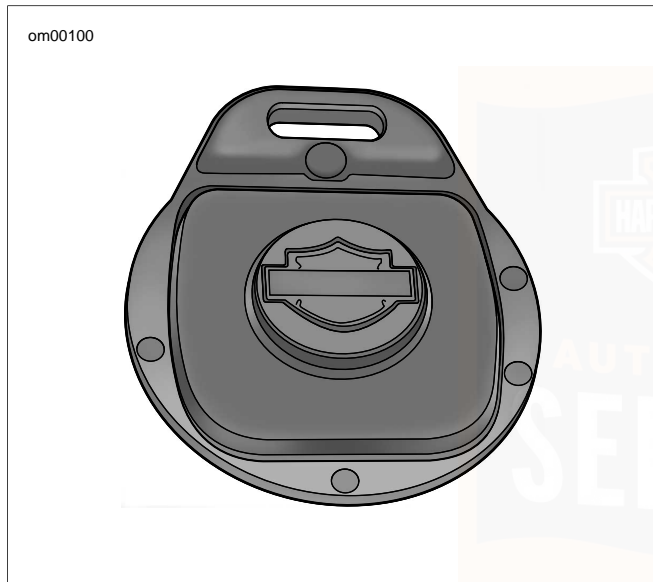

Figure 21. Key Fob Open Case: Front
1. See Figure 21. Place a thin blade between the 2 halves of the key fob case and slowly turn to open.